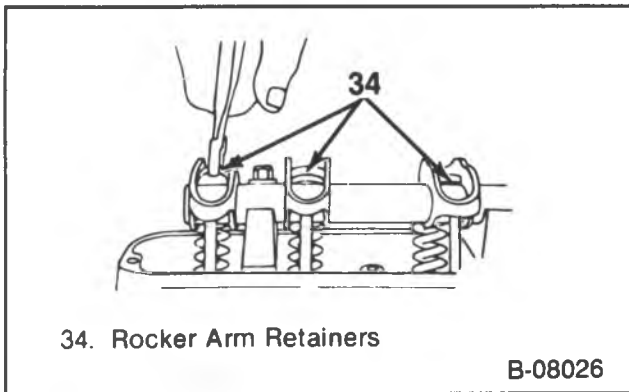

Figure 6 — Removing the Rocker Arm Retainers
- Remove the rocker arm retainers with pliers (figure 6).